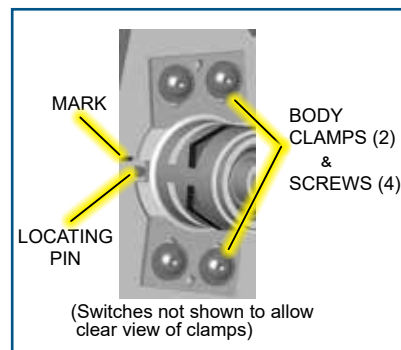

Figure 2
6. Use a fine point marker to note the position of the control end relative to the actuator body. Mark the face of the actuator immediately adjacent to the top of the notch (see Fig. 2).
7. Loosen (do not remove) the mounting clamp screws, (4) #8-32 socket button head screws (2 per clamp), and slide the top clamp up over the edge of the shoulder in the actuator, immediately above the stator flange. Snug one of the screws to hold the clamp up while replacing the assembly. Allow the bottom clamp to hang by the screws.
15. Slide the new assembly onto the shaft, turning the coupling (if necessary) to align the assembly with the shaft. Align the notch in the stator with the locating pin situated to the left of the control end shaft (see Fig. 2).